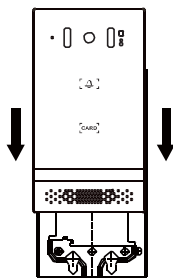

Figure 3-6
F. Attach the device to the wall bracket in a top-down manner, locking the screws at the Bottom, as shown in Figure 3-6.